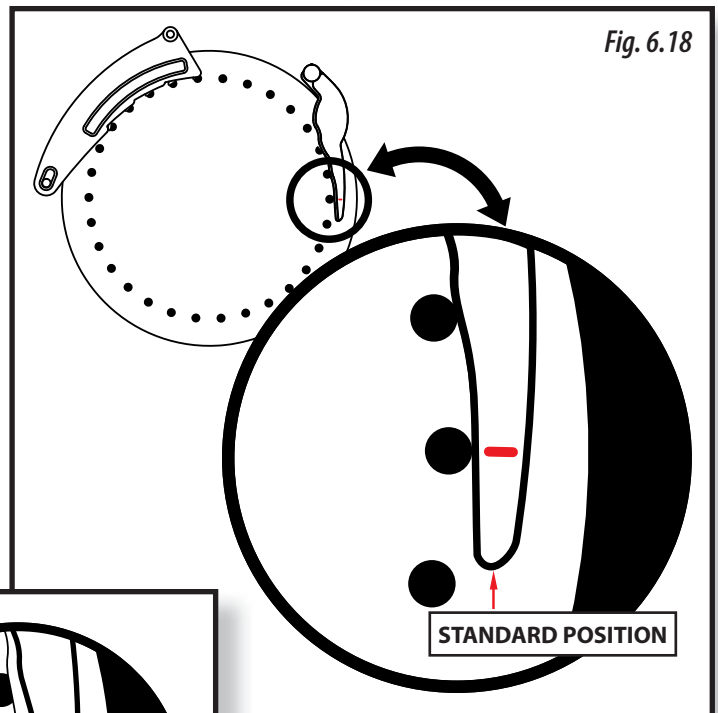

Fig. 6.18
- 4- Place the slide at the correct position. For the standard adjusting, place the slide tangent to the exterior of the disc's hole that coincide with the vacuum cut-off line. See the mark on the slide (in red, Fig. 6.18)
THE MARK ON THE SLIDE (IN RED, FIG. 6.18) INDICATES THE ADJUSTING POINT IN STEP 4.